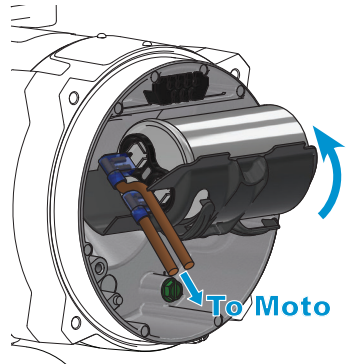

Figure 6
7. Replace the plastic cover by rolling the capacitor and plastic against the metal supports in the bottom of the housing and then snapping the plastic tabs into the wall of the metal housing. (see Figure 6)